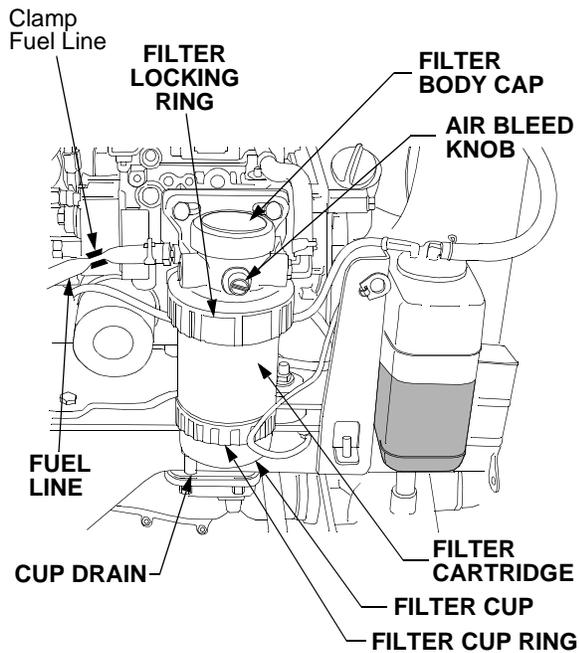

Figure 62
- Clamp the fuel line just to the rear of the fuel filter. Refer to Figure 62.
- Grasp the filter cup ring and turn counterclockwise (as viewed from the bottom of the cup) to unscrew the cup from the filter cartridge. See Figure 62.
- Turn the filter locking ring approximately 1/4 turn counterclockwise (as viewed from bottom) to unlock. Refer to Figure 62.
- Slowly turn the air bleed knob counterclockwise until fuel refills the cup and begins to seep out around the bleed knob. Turn the air bleed knob clockwise to close. Refer to Figure 62.
**WARNING:** Never loosen or remove the filter body cap (Refer to Figure 62). Diesel fuel will pour quickly from the loosened cap. Also, the cap O-ring may be damaged when the cap is retightened, causing continued leakage of flammable fuel.